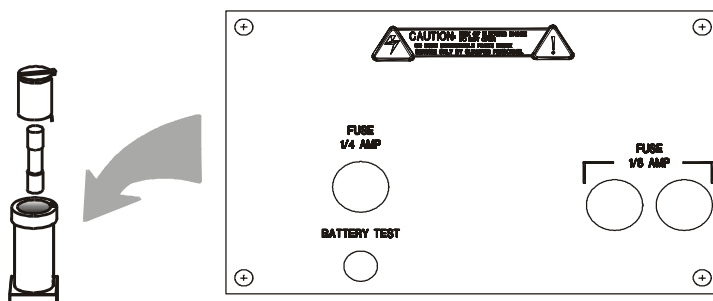

Figure 5-2: DC Battery Backup Fuse Replacement
2. Place a small screwdriver in the notch of the fuse holder cap, push in and rotate 1/4 turn. The cap will pop out a few millimeters. Pull out the fuse holder cap and fuse, as shown in figure 5-2.